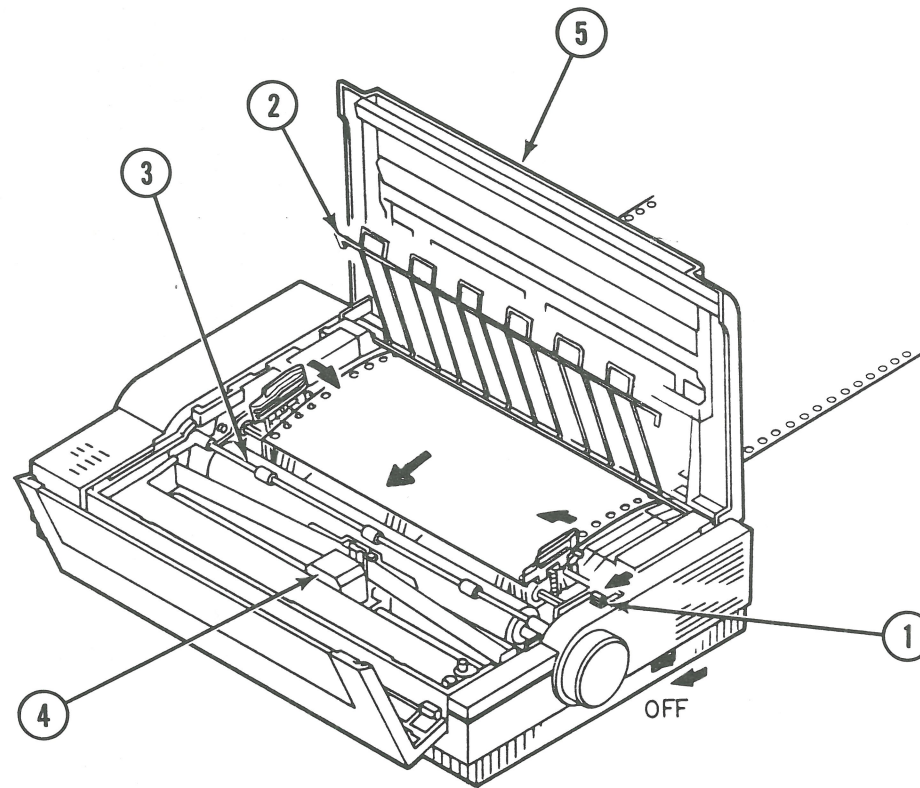

FIGURE 6
2. Pull the paper-feed lever (Figure 6, #1) toward the front of the printer, to the tractor feed position, until it stops.
3. If present, remove the paper separator (Figure 6, #2).
4. Pull the paper bail forward (Figure 6, #3).
5. Slide, by hand, the carrier assembly (Figure 6, #4) to the center of the platen.
6. Insert the pin feed paper into the paper slot at the back of the printer (Figure 6, #5).